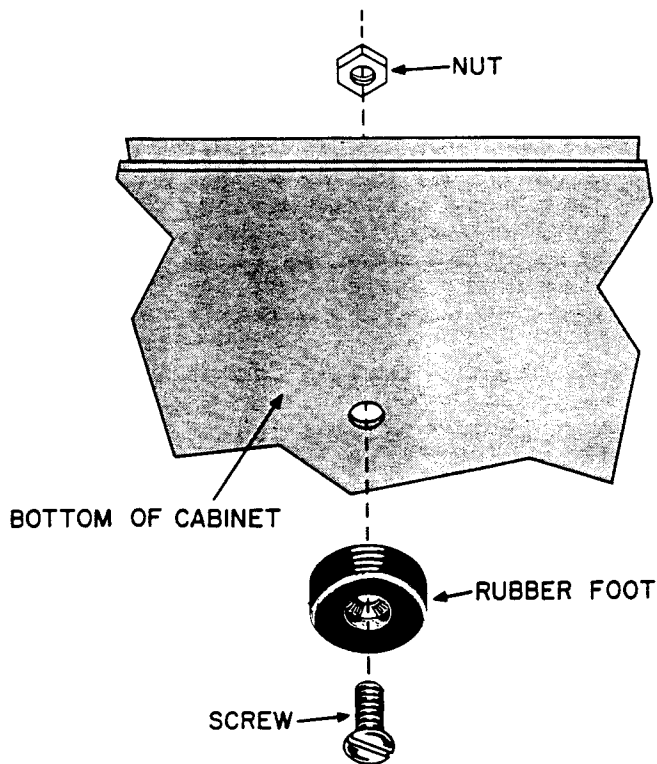

FIGURE 2. HOW TO MOUNT THE RUBBER FEET ON THE CABINET
- As shown in Figure 2, put a 6-32x $\frac{5}{16}$ " screw through the large hole in each of the four rubber cabinet feet so the screw head fits into the large hole. Push the protruding threaded ends of the screws through the bottom of the cabinet and fasten them with hex nuts inside the cabinet.